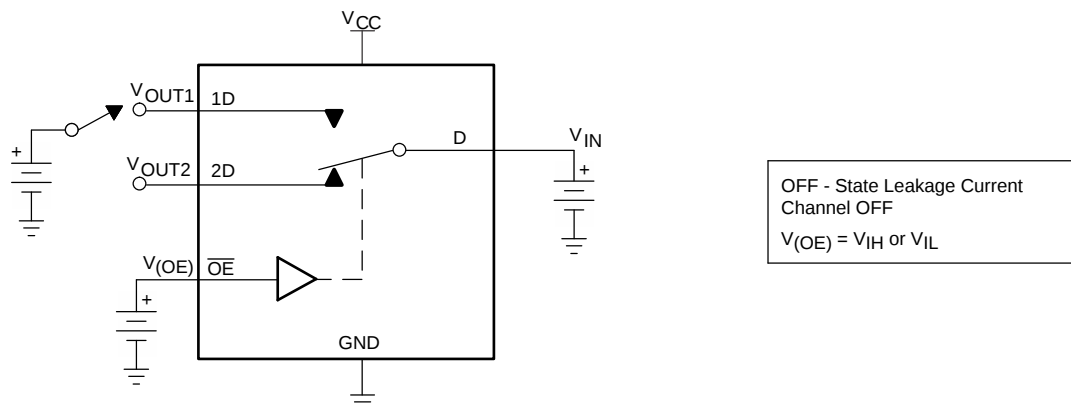

**Figure 8. Propagation Delay**
| $t_{pd}$    | Propagation delay (2)(3)                                                            | $R_L = 50\ \Omega$ , $C_L = 5\text{ pF}$ ,See Figure 8                                                      |     | 0.25               |     | ns   |